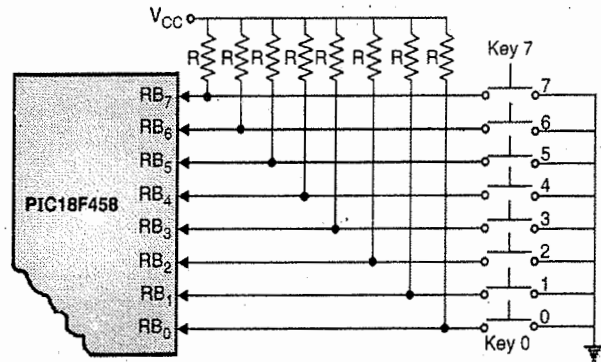

Fig. 10.3.1 : Non matrix type keyboard
- In non-matrix type keyboard, the key closure is identified by reading the port data, but it requires many port lines. The number of I/O lines is equal to number of keys. Fig. 10.3.1 shows the interfacing of octal non-matrix type keyboard.
- (1) Identifying a key closure.
- (2) Debouncing the key.
- (3) Encoding the key to an appropriate code like hexadecimal.